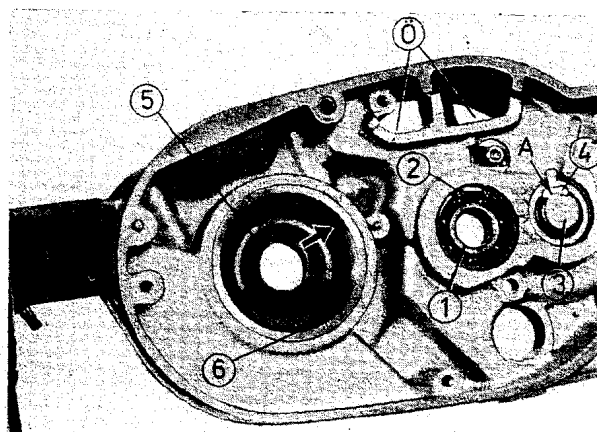

Fig. 59. Left-hand housing half - oil guide plate and gearbox bearing
- Insert the oil guide plate (3 in Fig. 59) into the gearbox compartment and fit the locking plate at the clutch side, tighten the fastening nut M 6 and lock it;
- Press the closing plates (6) into the respective holes of the right-hand casing half from the dynamo side in such a manner that tightness is ensured.
- Starting from the clutch side, insert the gearbox bearing 6204 J C 4 (1) for drive shaft up to the casing collar and mount the circlip (2) on the clutch side;
- Starting from the gearbox compartment, mount cap (3) and seal plate (4) as well as gearbox bearing 6203 J C 4 for output shaft in this order.
- Put the oil guide plate (5) for bearing 6306 C 4 f on the circlip (6) from the crankcase interior. The dot pressed into the outer edge of the oil guide plate points to the opening of the circlip and serves as lock against displacement (see arrow in Fig. 59);
- Mount the crankshaft main bearing 6306 C 4 f (3) by means of the fitting mandrel (1) (29-50.405). At the same time, the oil guide plate is centred with the taper collar of the fitting mandrel (2);
By the drive gear (68 teeth), a part of the oil from the clutch compartment is pumped up into the oil catch pockets of the left-hand casing half (O, Fig. 59). From this catch pockets, the oil flows on to the oil guide plate (L, Fig. 57) and through the holes in the oil guide plate directly on the teeth of the gearbox gears and from the rear catch pocket over the circlip which is open at the top into the oil catch plate of the drive shaft (arrow A, Fig. 59). Through the hole drilled in the drive shaft, the oil passes to the bearing of the loose wheels for the 2nd and 3rd speeds and lubricates them.